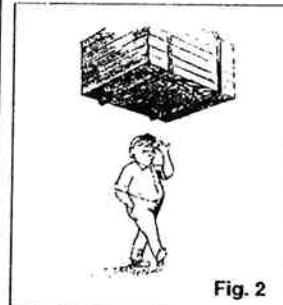

Fig. 2
- Do not allow personnel to pass under a suspended load (fig 2).